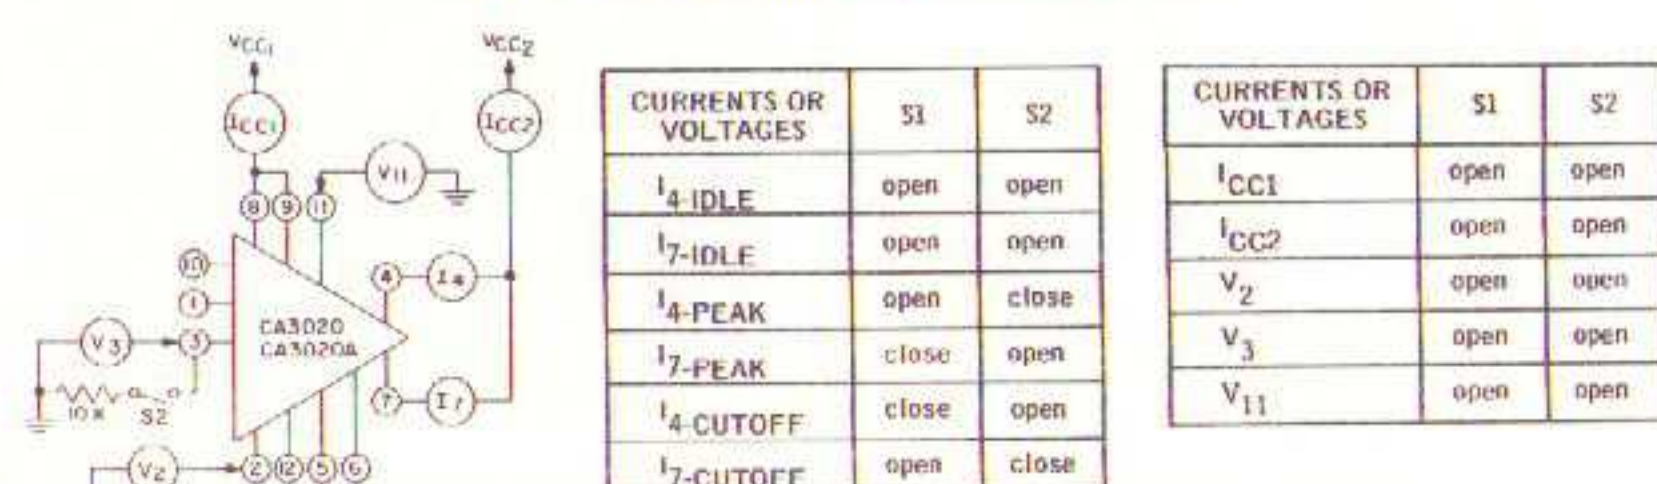

Fig. 8
* Refer to Figs. 8 through 12 for Measurement and Symbol Information.